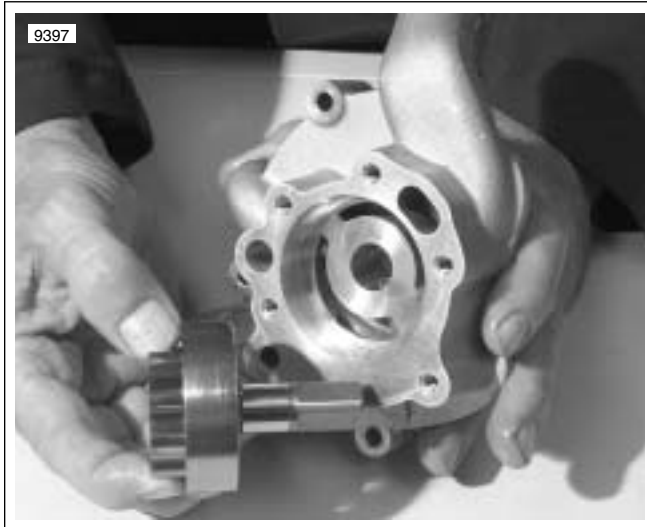

Figure 3-68. Lubricate Assembly
5. See Figure 3-68. Thoroughly lubricate during assembly. Pack pump housing with Lubriplate No. 105 (NAPA™ Part No. 765-2651) to insure oil pick-up is immediate.